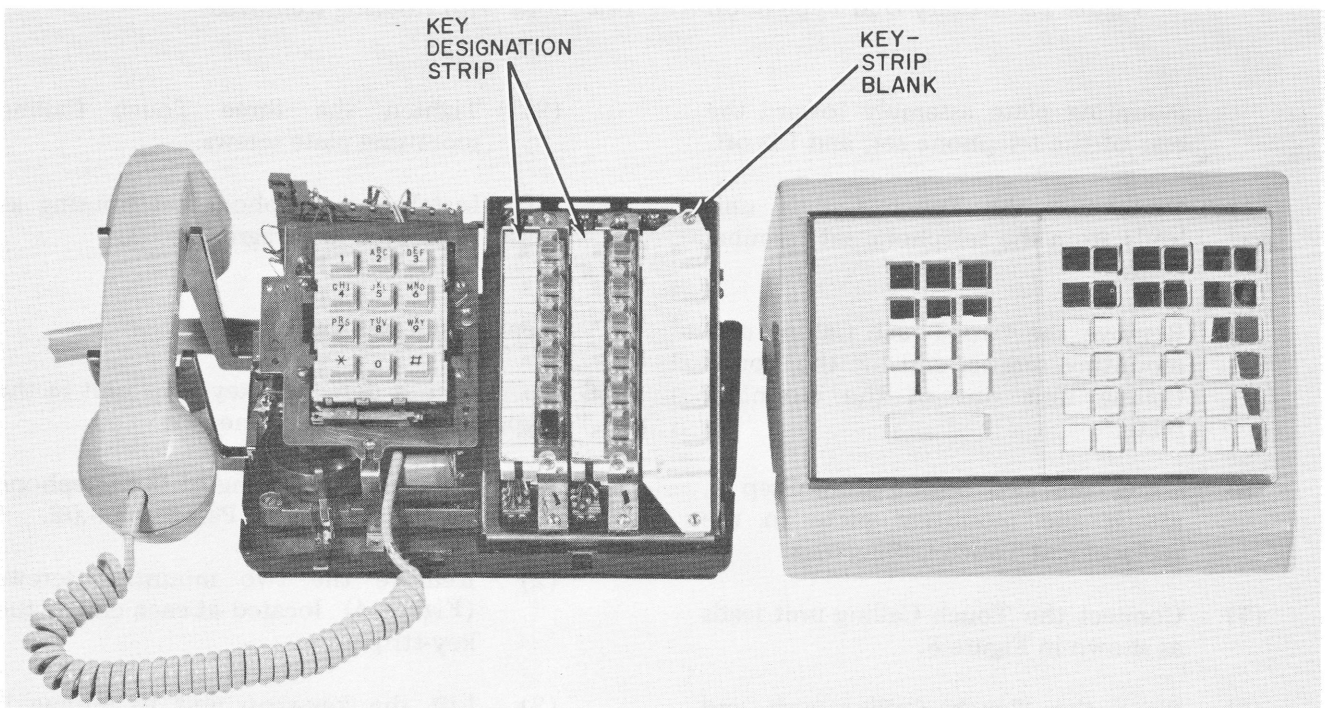

Figure 11. Touch Calling Type 860B Key Telephone with Housing Removed.
- (1) Remove the housing from the telephone set as instructed in Paragraph 6.02
- (2) Remove the two mounting screws (Figure 11) securing the key-strip blank. Lift out the key-strip blank.
- (3) Remove and discard the plastic dust covers on the receptacle of the new key-strip unit and the third plug of the mounting cord.
- (4) Install the key-strip unit as instructed in Paragraph 6.06, Steps 6 through 10.
- (5) Install the housing on the telephone set as instructed in Paragraph 6.03.
- (1) Remove the telephone set housing as instructed in Paragraph 6.02.
- (2) Loosen the three Touch Calling unit mounting plate screws (Figure 11).
- (3) Move the Touch Calling unit and